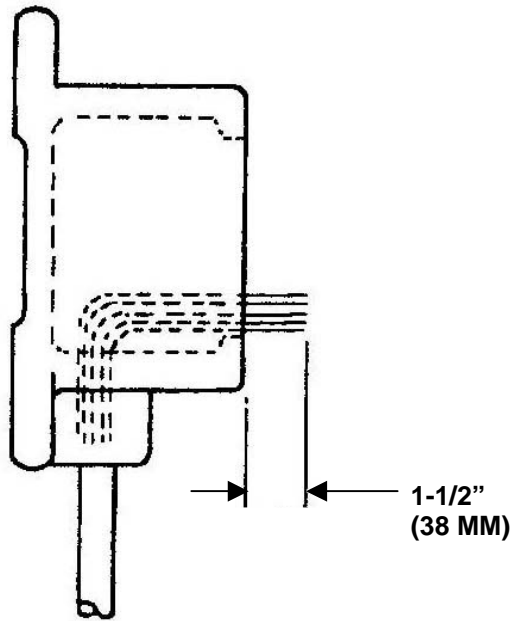

Figure 3-5
- a. When threading conduit, cut the wires so that all wires project beyond the housing surface approximately 1-1/2" (38 mm) as shown in Figure 3-5. Do not later pull the wires tight as you will be unable to remove cover holding the mechanism.